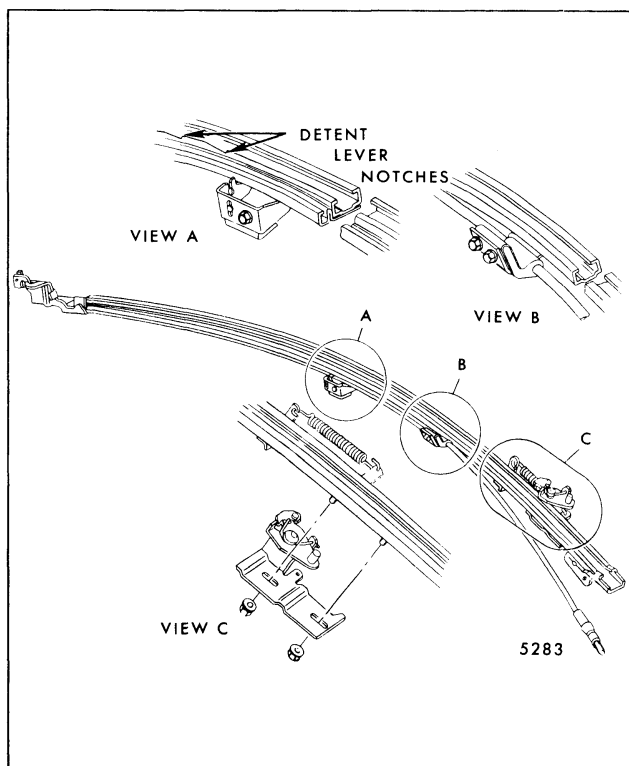

Fig. 7-99-Window Right Guide Cam and Drive Cable Details
cam from the guide forward end to the cable-to-guide cam attaching bracket (View "B", Fig. 7-99). From this point rearward to the regulator the cable passes through a conduit for routing under the guide cam and into the back body pillar. The forward end of the drive cable includes a metal tab (or flag) by which attachment to the glass hardware is made.
3. Remove screws securing drive cable conduit to guide cam (View "B", Fig. 7-99).
The window stop cable and clip assembly is designed to prevent full lowering of the tail gate window (approximately 8" above the beltline) until the tail gate is fully closed (View "C", Fig. 7-99). In addition, this assembly prevents mechanical release of the tail gate until the window is raised approximately 8 inches above the beltline. This feature is not required with the power tail gate option.
2. Loosen stop assembly attaching nuts and allow spring to locate assembly on guide cam, this will remove slack from cable and position bell crank. Tighten stop attaching nuts (View "C", Fig. 7-99).